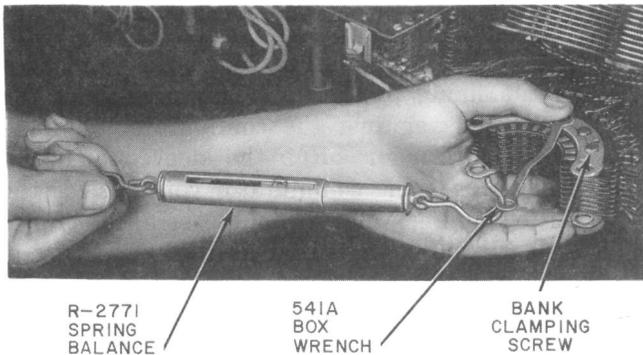

Fig. 5—Method of Checking Tightness of Bank Clamping Screws on Mechanized Bank
4.01 Tighten the bank clamping screws to minimum 16, maximum 18 pound-inches torque. Tighten the screws successively to obtain an approximately even distribution of pressure on the clamping plate. To check the torque, apply the 541A wrench on the head of the clamping screw and insert the hook of the R-2771 spring balance in the hole at the free end of the wrench as shown in Fig. 5. If this check is made with the switch mounted on the shelf, take care that the wrench does not slip from the head of the screw during the tightening operation since this might cause damage to the wipers or the shaft. A pull of 4-1/2 to 5 pounds (in the direction to tighten the screw) without moving the screw is an indication that the screw has been satisfactorily tightened. A 79F gauge may be used instead of the R-2771 spring balance. In this case, loop a piece of 6-ply twine through the hole at the free end of the wrench and apply the gauge to this loop. A pull of 2050 to 2275 grams (in the direction to tighten the screw) without moving the screw indicates that the screw has been satisfactorily tightened.